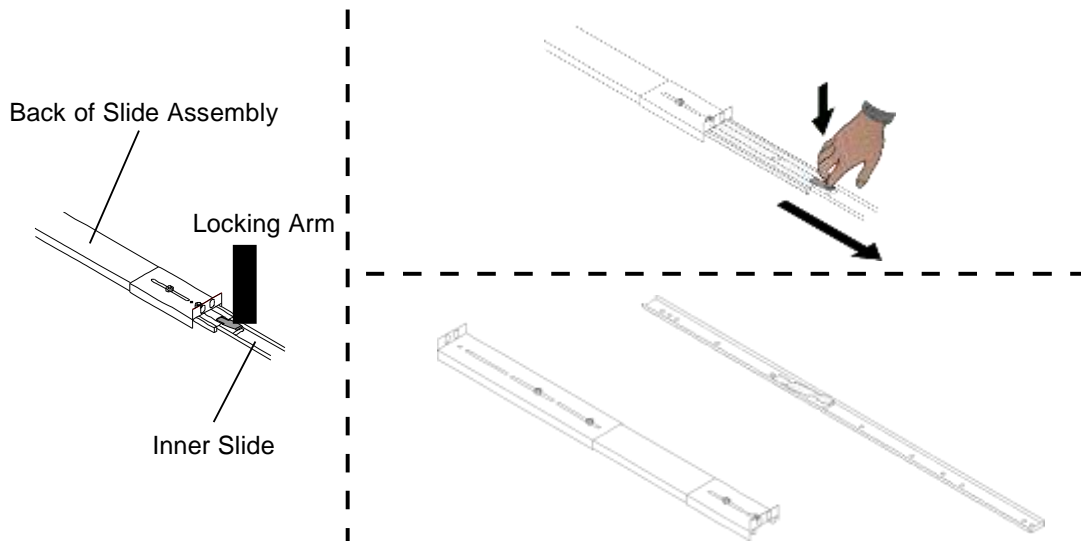

Figure 5-7 Removing the Inner Slide from the Slide Assembly
1. Place a slide assembly on a flat surface with the back of the slide assembly facing up. Pull out the inner slide from one of the slide assembly as far as it will go. The slide can be extended until the locking arm on the back of the slide emerges. Refer to Figure 5-7.
2. Press the locking arm to release the lock, and then pull the inner slide all of the way out. Refer to Figure 5-7.